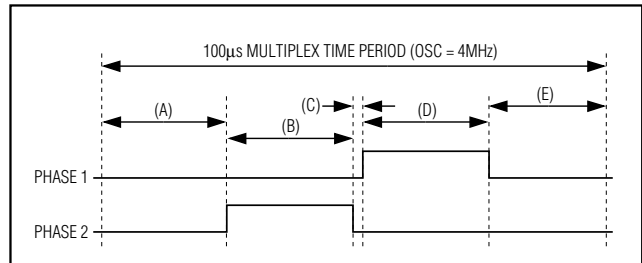

Figure 19. Filament Bridge Driver Timing Waveforms
The waveform generation uses PWM to set the effective RMS voltage across the filament, as a fraction of the external supply voltage (Figure 19) (Table 37). The filament switching frequency is synchronized to the multiplex scan clock, eliminating beating artifacts due to differing filament and multiplex frequencies.
The minimum commutation time, shown at (C) in Figure 19, is set by  $(2/OSC)s$  (500ns when  $OSC = 4MHz$ ) to ensure that shoot-through currents cannot flow during phase reversal. Otherwise, the duty cycle of the bridge (total on-time: total time) sets the RMS voltage across the filament. This technique provides a low-cost AC filament supply when using a regulated supply higher than the RMS voltage rating of the filament.